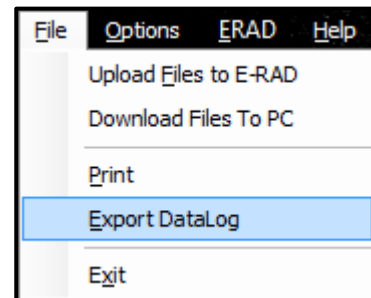

Figure 8.6-2: Export DataLog Option
2. Select "Export DataLog" from the File Menu (Figure 8.6-2).